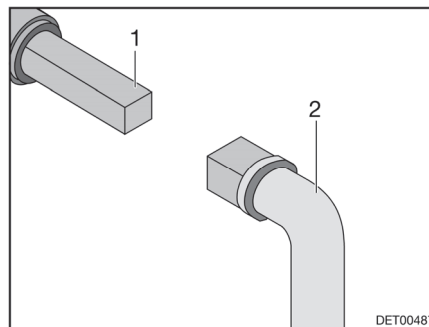

Fig. 138 Operation of the waste water tap
- Place key (Fig. 138,2) onto the square bolt (Fig. 138,1).